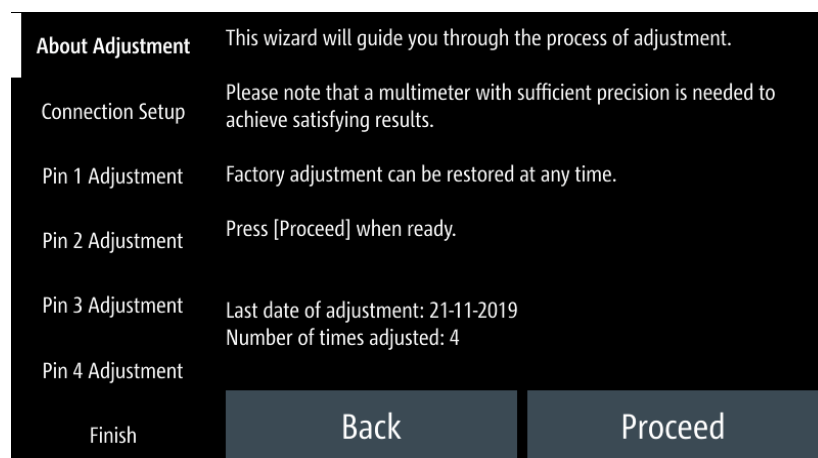

Figure 6-42: Analog in adjustment wizard
5. Follow the on-screen instructions displayed in the Figure 6-42.